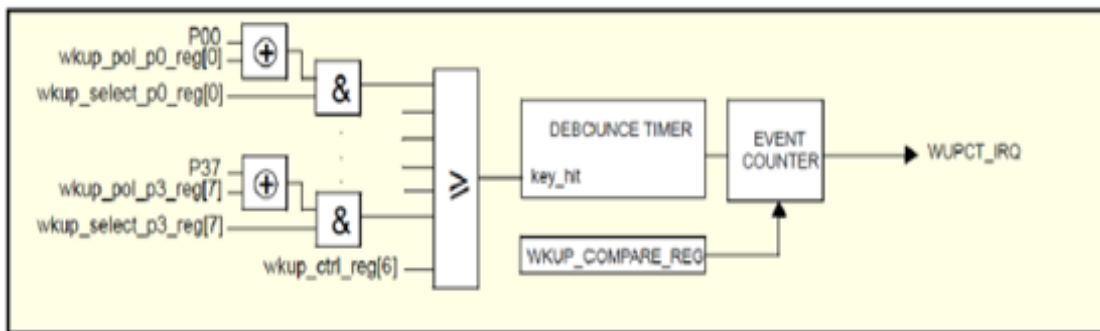

Figure 31 Wake-Up Timer Block Diagram
- The block diagram illustrating the Wake-up function is shown in Figure 31.
A LOW to HIGH level transition on the selected input port, while WKUP\_POL\_Px\_REG[y] = 0, sets internal signal “key\_hit” to ‘1’. This signal triggers the event counter state machine as shown in Figure 31. The debounce timer is loaded with value WKUP\_CTRL\_REG[WKUP\_DEB\_VALUE]. The timer counts down every 1ms. If the timer reaches 0 and the “key\_hit” signal is still ‘1’, the event counter will be incremented.